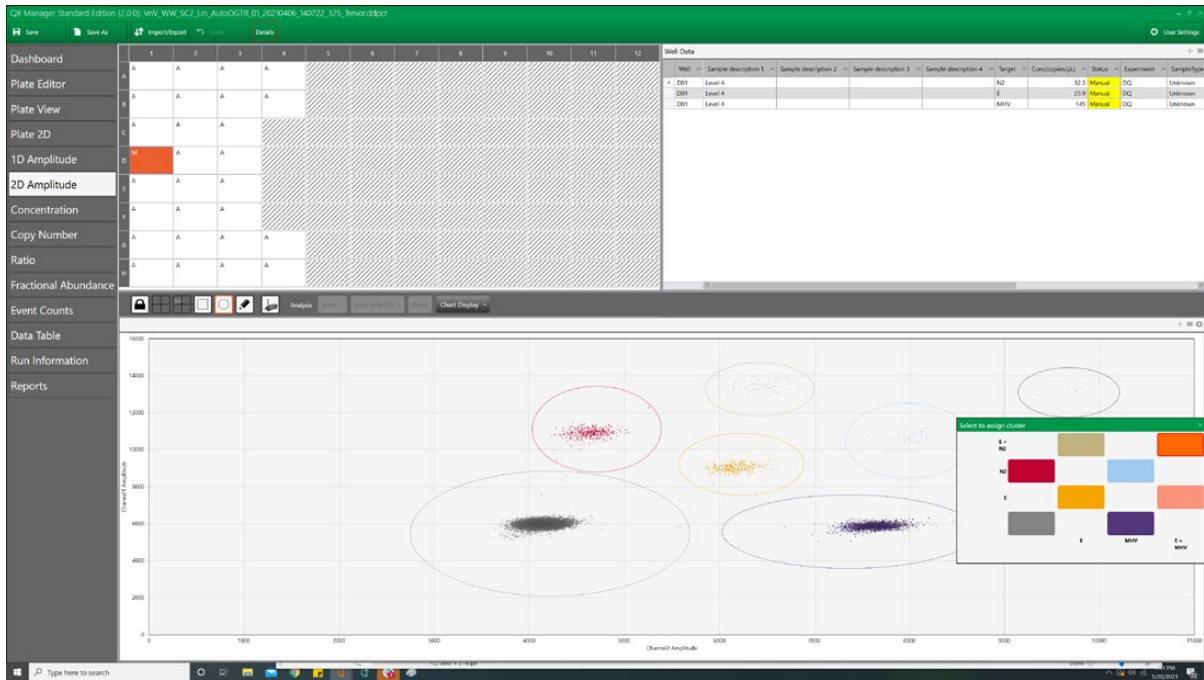

Fig. 19. E and MHV double-positive cluster.
- Below the triple-positive cluster there is an E and MHV double-positive cluster corresponding to droplets that are both **E** and **MHV** positive (Figure 19).